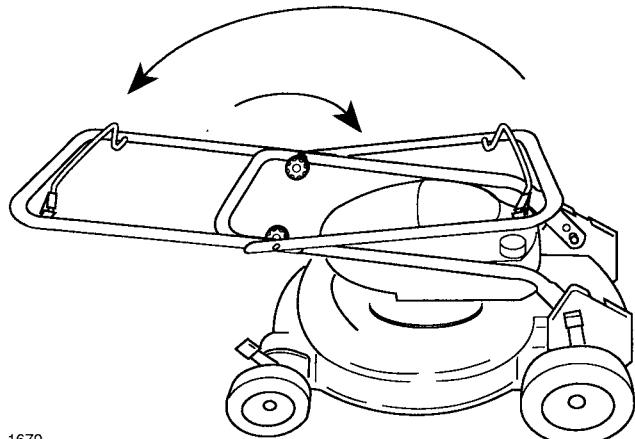

Figure 44
4. For long term storage, fold handle as shown in Figure 44.
2. Rotate handle toward front of mower (Fig. 44).